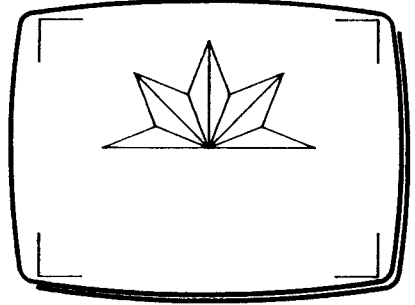

Fig 2
- 7 Move XY to centre the cursor frame, then press and release T to fill the top left quadrant (Fig 2).